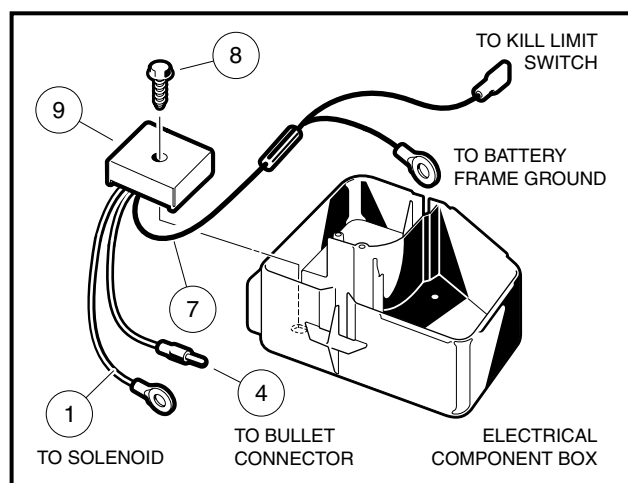

Figure 12a-16 Voltage Regulator
1. Position the voltage regulator (9) in the electrical component box and install the mounting screw (8) (**Figure 12a-16, Page 12a-14**). Tighten screw to 23 in-lb (2.6 N·m).
2. Connect the voltage regulator red wire (1) at the large post on the solenoid with the other red wires, the yellow wire (4) at the bullet connector, and the black wire (7) to the wire harness and the battery frame ground (**Figure 12a-16, Page 12a-14**).